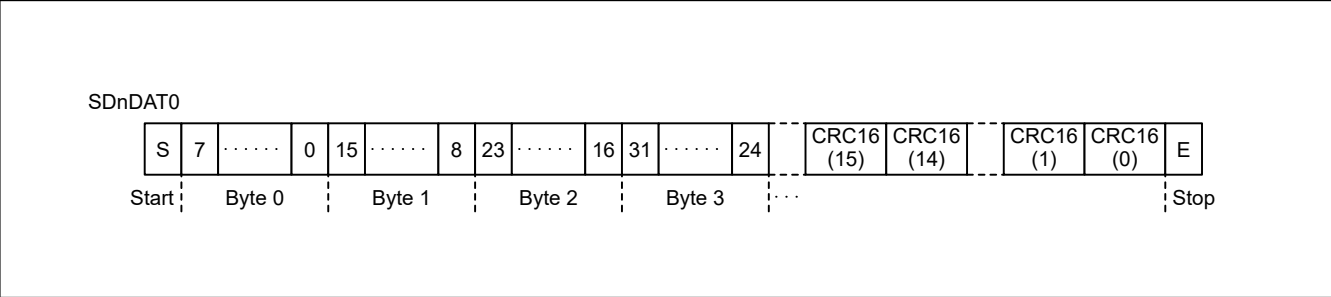
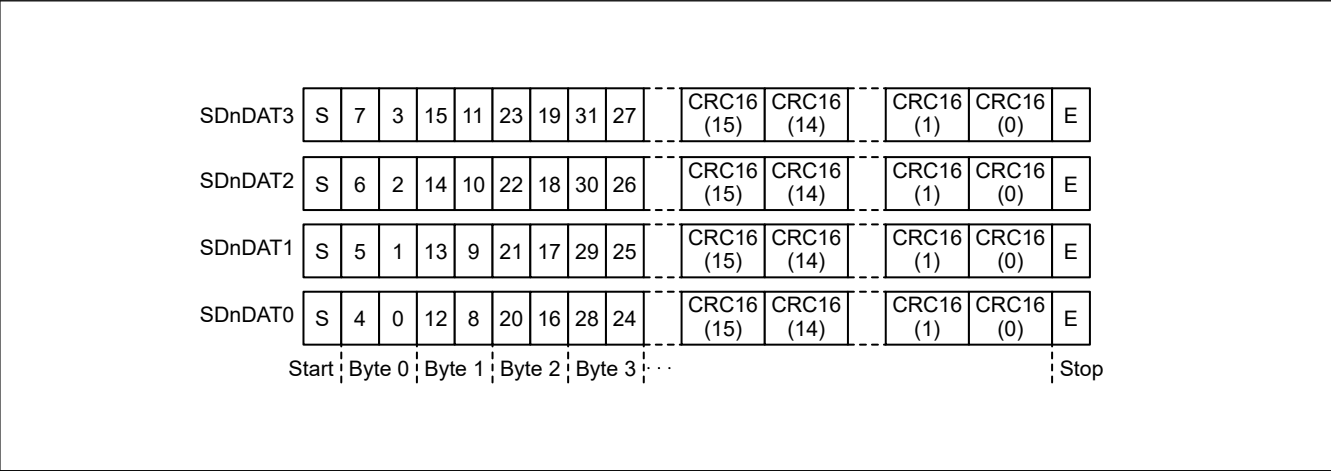

Figure 48.2 SDnDAT in 1-bit width mode
Figure 48.3 SDnDAT in 4-bit width mode
1. The SD/MMC Host Interface receives data from the SD card/MMC through the SDnDAT signal (see Figure 48.2 and Figure 48.3).